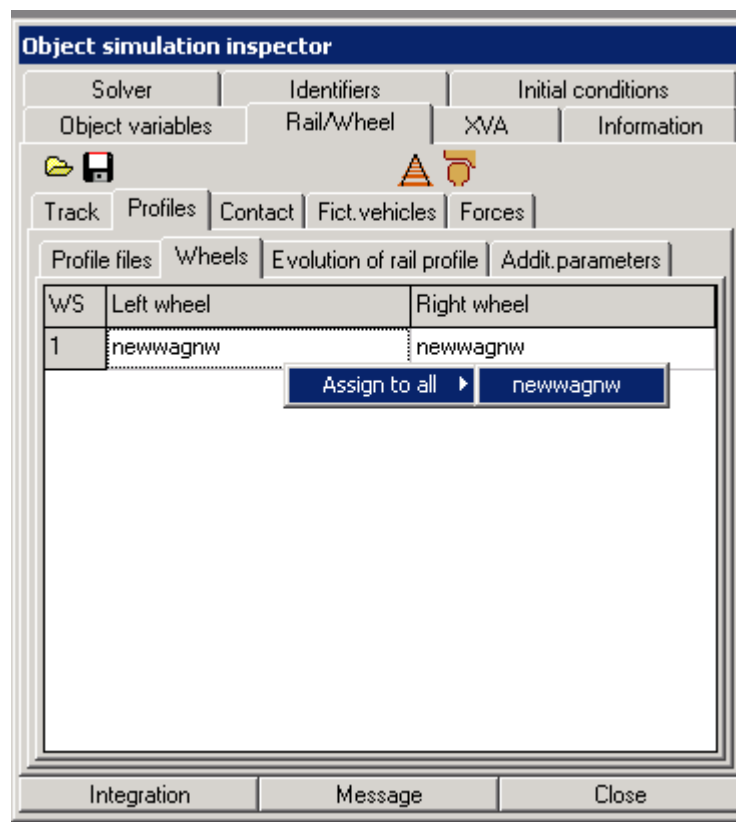

Figure 1.3. Rail and wheel profiles
8. Click the right mouse button on the table of wheel profiles and select **Assign to all/newwagnw**, see Fig. 1.3.